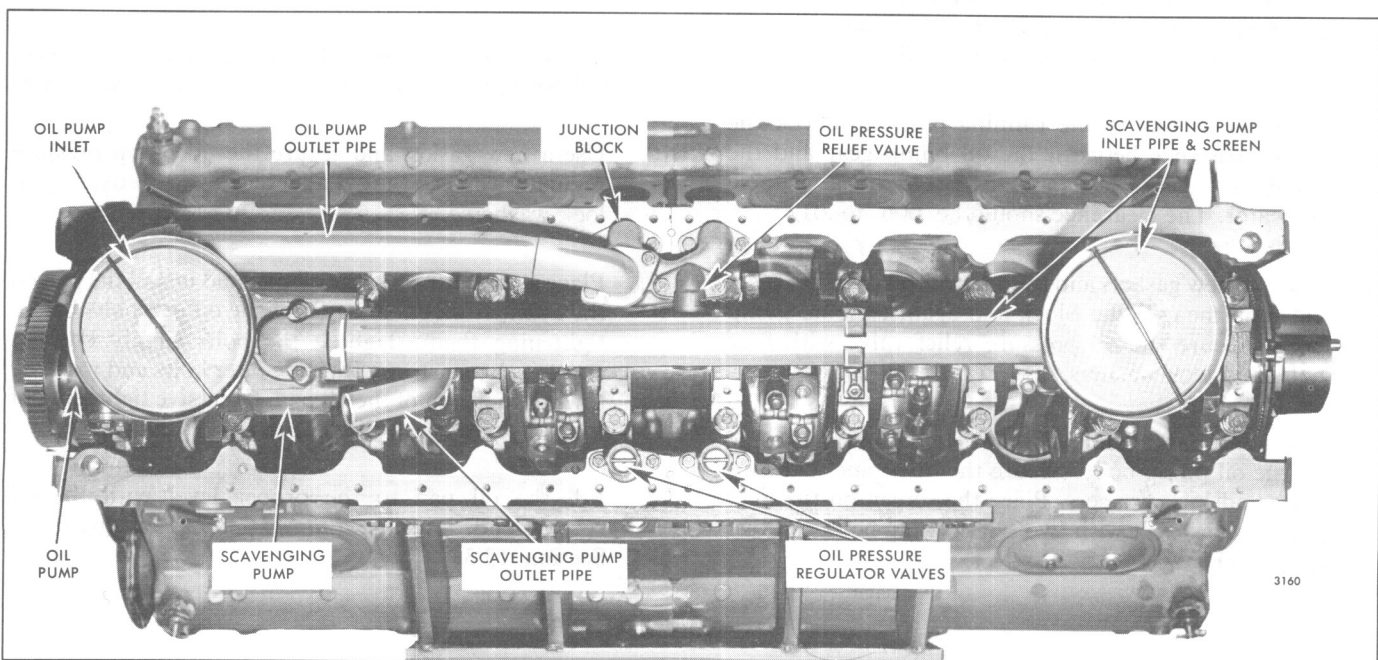

Fig. 10 – Typical Lubricating Oil Pump Rear Mounted (12V-92 and 16V-92 Engines)
The gear-type scavenging lubricating oil pump is mounted on number seven and eight main bearing caps (12V-92 engines) and number nine and ten main bearing caps (16V-92 engines) and is gear driven from the rear end of the crankshaft (Fig. 10). On some engines, the oil pump is mounted at the front on the number one and two main bearings caps and is gear-driven by an oil pump drive gear bolted to the front of the crankshaft gear.
3. Remove the inlet and the outlet tube assemblies from the oil pump and the scavenging pump (Fig. 10).
1. Position the rear mounted oil pump on the number seven and eight main bearing caps (12V-92 engines) and number nine and ten main bearing caps (16V-92 engines) so that the oil pump drive gear teeth mesh with the oil pump driven gear teeth. Secure the oil pump to the bearing caps with four nuts and lock washers (Fig. 10).
3. Install the junction block if it was removed (Fig. 10). When installing the junction block, use new junction block-to-cylinder block gaskets to prevent oil leaks.